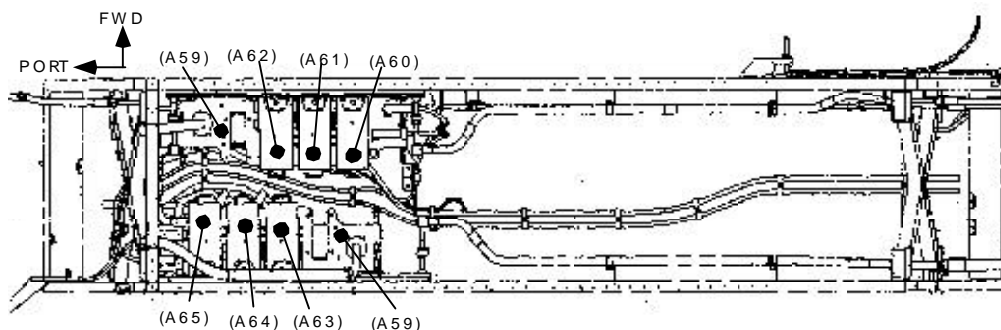

Figure. 1. Nadir View of Node 1 Forward Nadir Alcove(with Closeout and Shear Panel Removed).
4. Locate failed RPCM. See Figure 1. and Table 1.